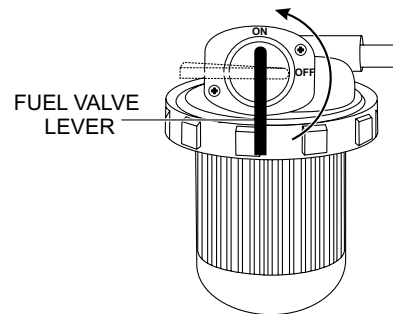

Figure 25. Fuel Valve Lever (ON)
3. Place the fuel valve lever (Figure 25) in the **ON** position.